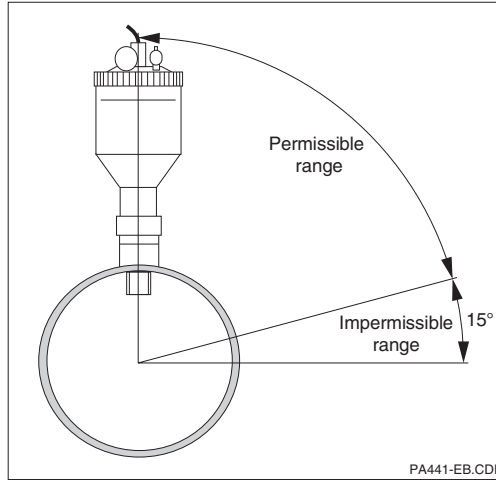

Fig. 3.3 Permissible mounting positions for CPA 441
- The permissible range of mounting positions comprises inclinations of the central axis of the assembly that do not fall below 15° from the horizontal (see Fig. 3.3). Ensure that the electrode contacts the medium to be measured. With inclined mounting, the change in the usable electrolyte volume must be considered (see chapter 3.5).